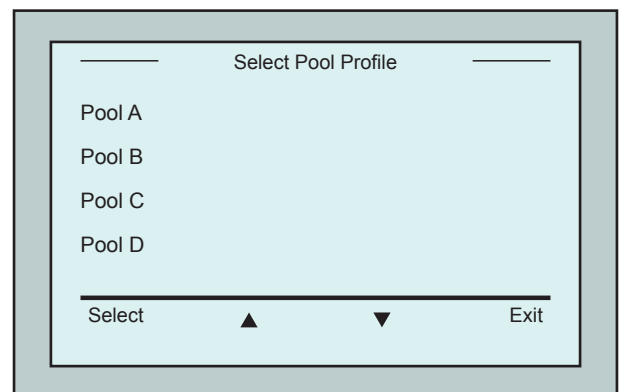

Figure 5: *Pool Profile* screen
2. Press Pool A to access the *Pool Profile* screen. The *Pool Profile* screen is displayed (Figure 5).